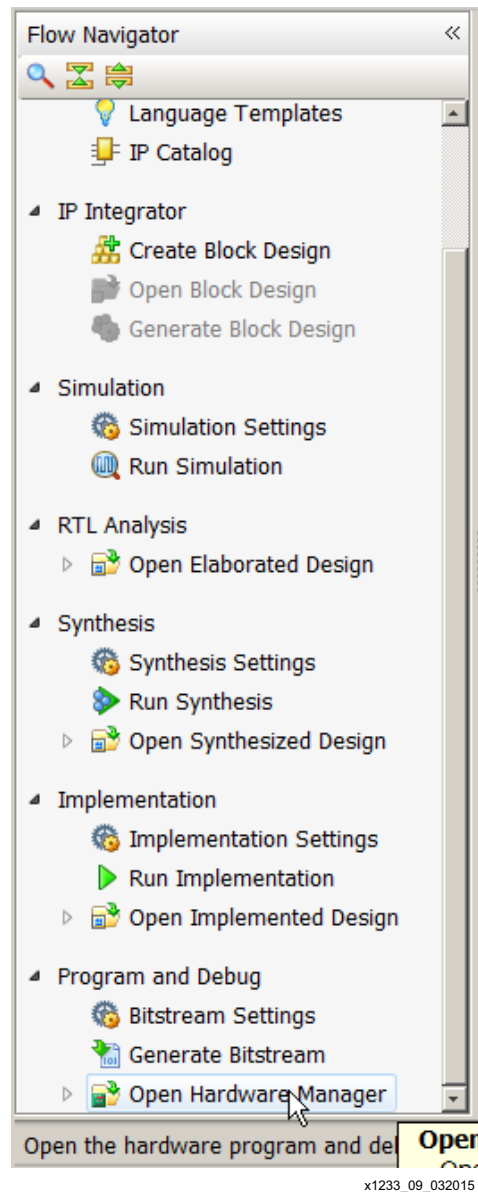

Figure 9: **Open Hardware Manager**
2. Open the Vivado tools Hardware Manager by selecting **Open Hardware Manager** under the Program and Debug flow as shown in Figure 9. Alternatively, select **Flow > Open Hardware Manager**.